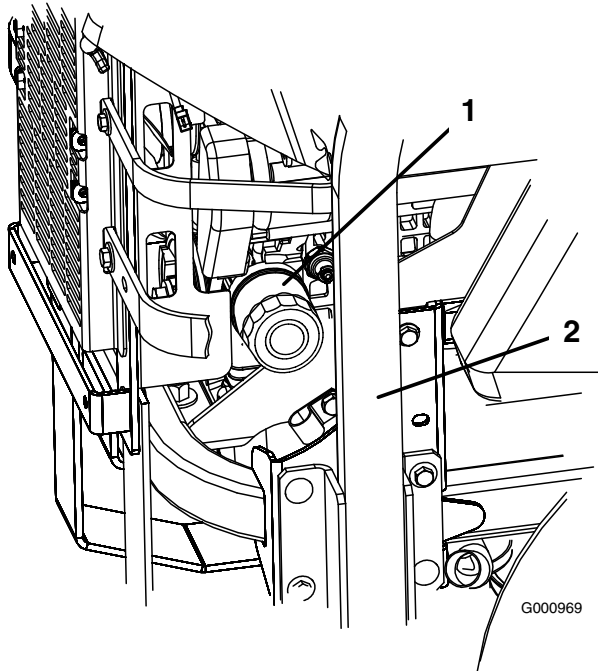
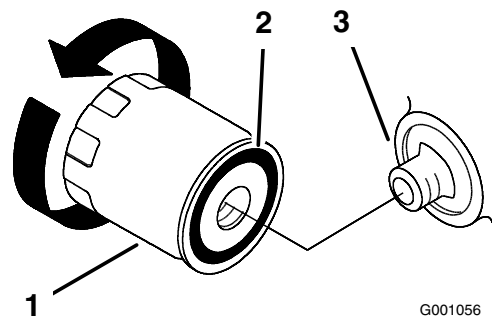

Figure 40
Figure 41
3. Turn the filter counterclockwise to remove it (Figure 40 and Figure 41).